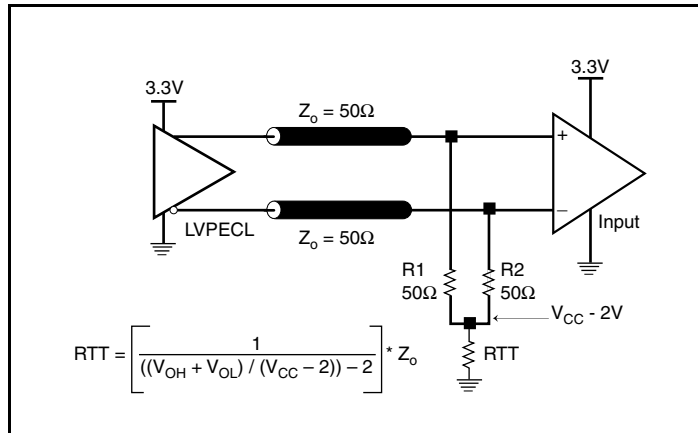

Figure 3A. 3.3V LVPECL Output Termination
*Figures 3A and 3B* show two different layouts which are recommended only as guidelines. Other suitable clock layouts may exist and it would be recommended that the board designers simulate to guarantee compatibility across all printed circuit and clock component process variations.